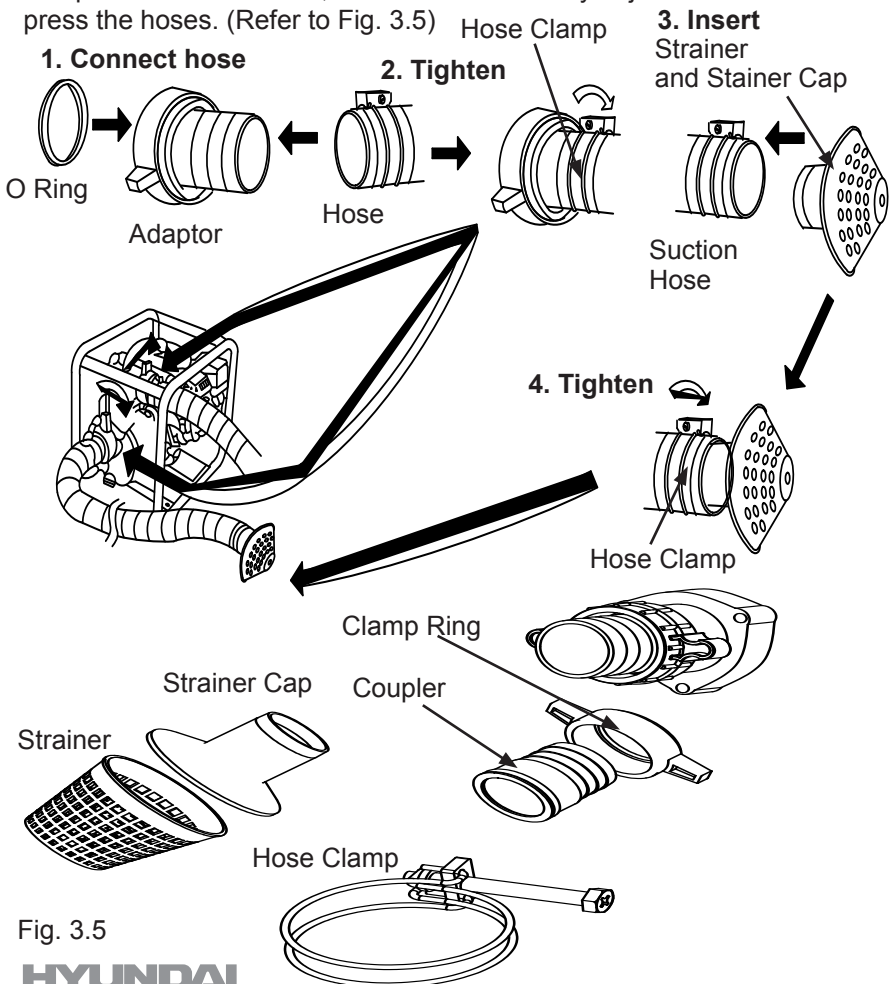

Fig. 3.5
4. Screw the adapters into the appropriate pump fittings. Avoid sharp bends in the hoses, and don't allow heavy objects to compress the hoses. (Refer to Fig. 3.5)